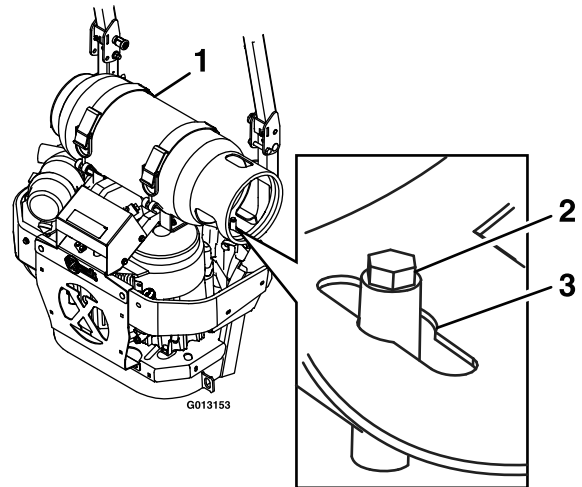

Figure 26
9. Align the center hole over the mounting pin that points straight up on the mower as shown in Figure 26.